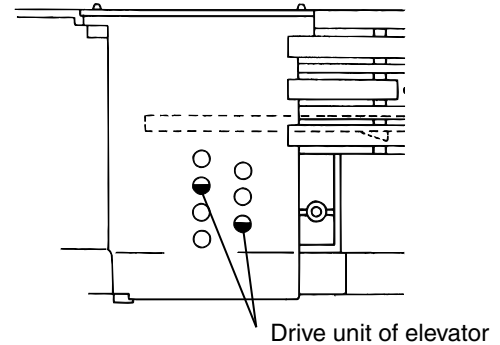
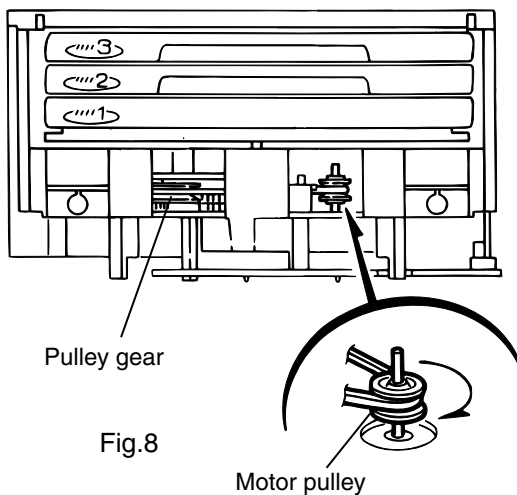

Fig.7
Fig.8
**[Caution]** In case the driver unit elevator is not at above position, set the elevator to the position as shown in Fig.7 by manually turning the pulley gear as shown in Fig.8.
10. Manually turn the motor pulley in the clockwise direction until the lifter unit stopper is lowered from the section **e** of DVD tray assembly (See Fig.8).